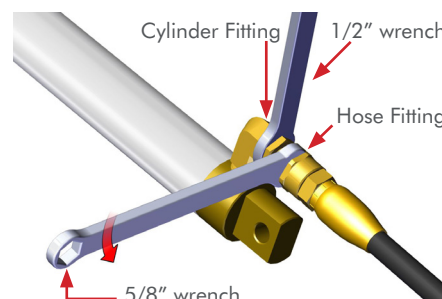

Figure 3
STEP 3 Hold the **Cylinder Fitting** with a **1/2" Wrench** and loosen the **DOWN Hydraulic Hose Fitting** with a **5/8" wrench**. **FIG 3**